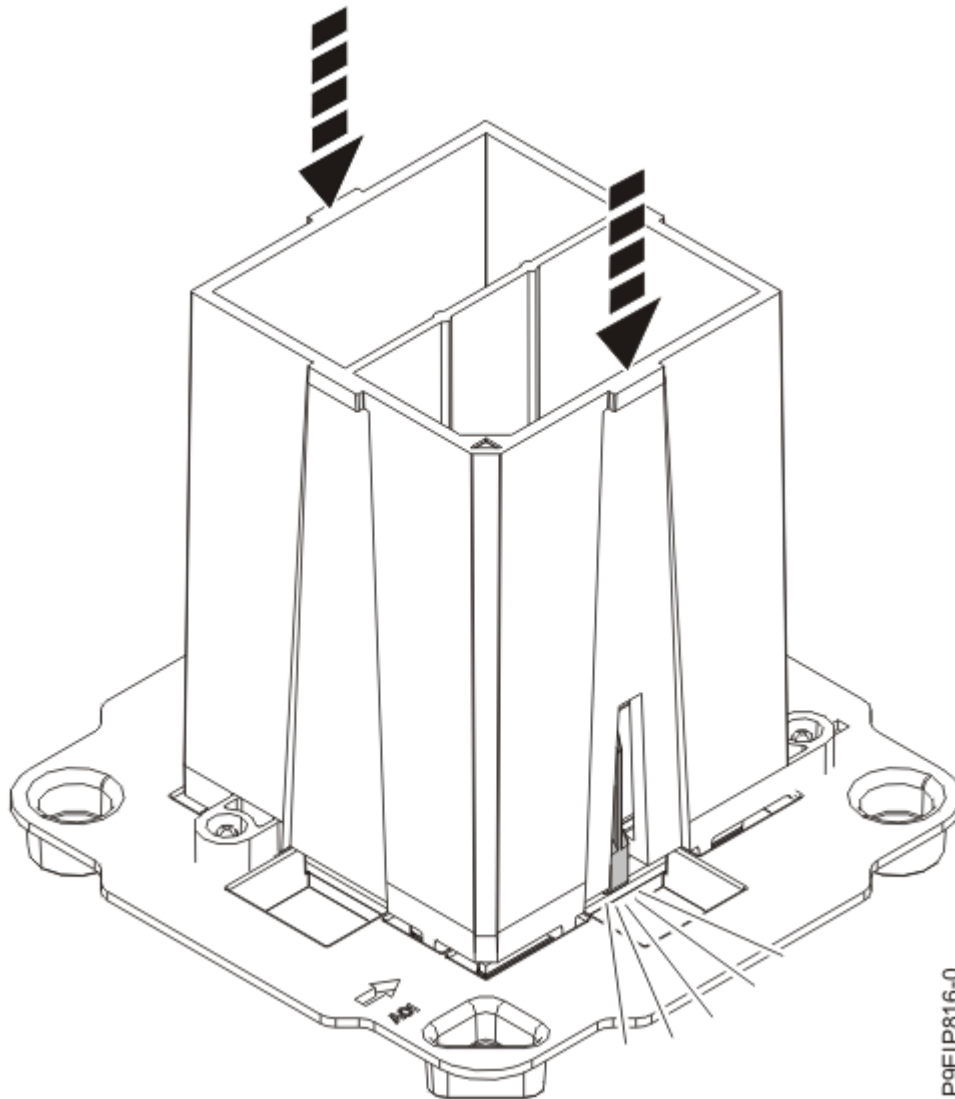

Figure 62. Locking the system processor module into the tool
4. With the removal tool sitting on top of the system processor module, push down on the tool to lock the system processor module into the tool as shown in Figure 62 on page 69.